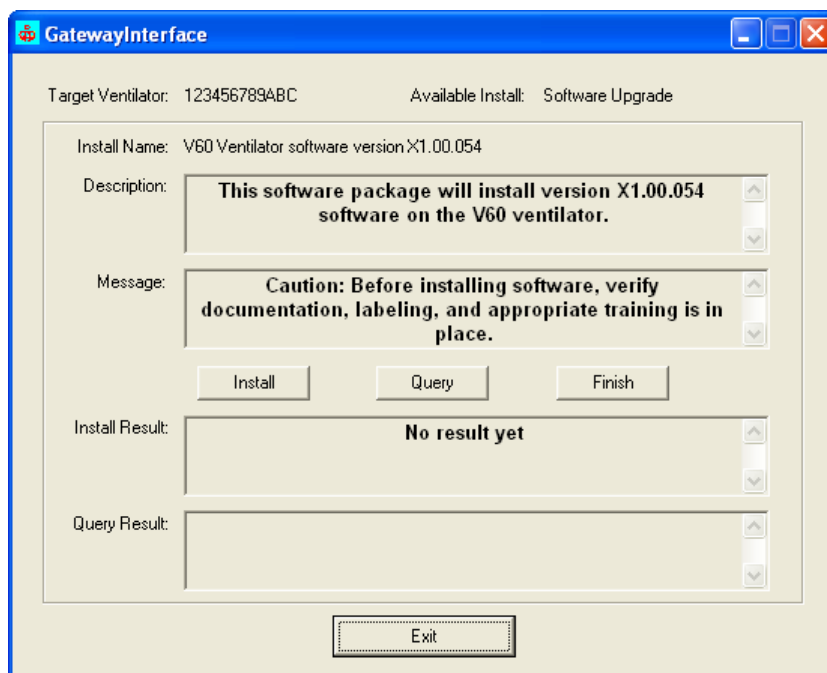

Figure A-9: Option Package Screen
4. Within 30 seconds, a GatewayInterface screen appears on the PC monitor if an option package is pending (Figure A-9).